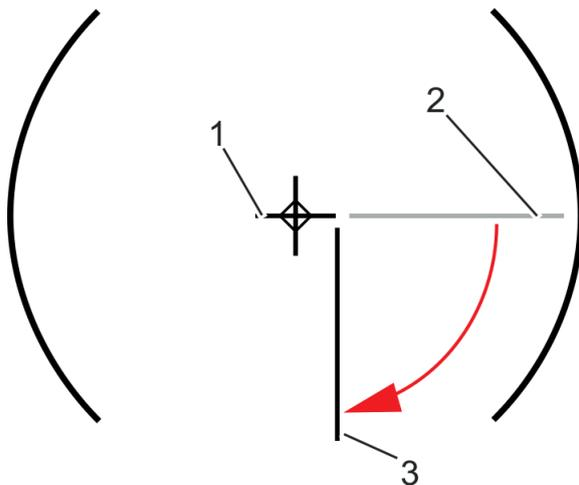

Fig. 108 Folding the wing
7. Counter the turnstile (Fig. 108/1) with one person.
8. Push the wing (Fig. 108/2) in short bursts.
» The wing folds to the side (Fig. 108/3).
11. Counter the turnstile (Fig. 108/1) with one person.
12. Fold the wing in the starting position (Fig. 108/2).